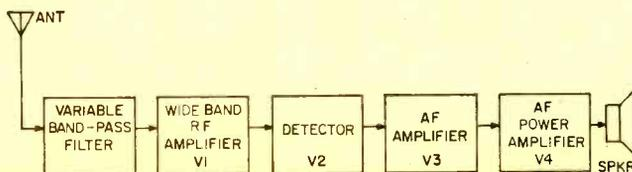

Fig. 17. Another circuit illustrating operation without all stages tuned. Here only the RF amplifier need be tuned to select and detect the desired frequency.
circuit shown in Fig. 17. The RF amplifier plate load is an RF choke or coil (L) which is resonant at a frequency lower than the tuning range of the receiver.